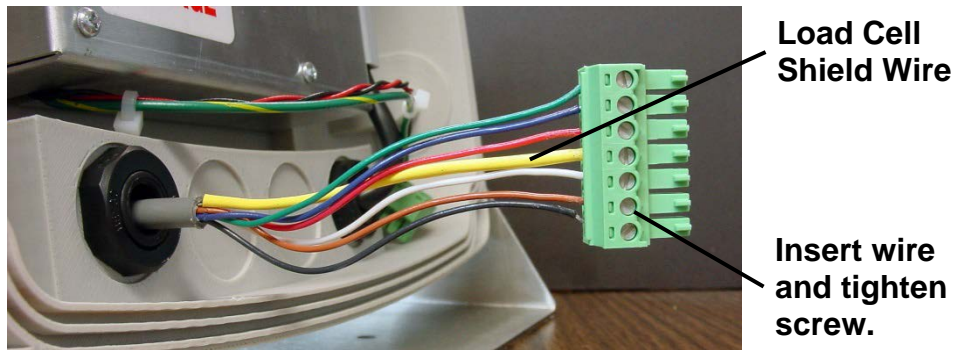

Figure No. 4
8. To terminate a wire, loosen the screws in the terminal block and then insert the wire into the terminal opening. Tighten the screw to secure the wire in place. See Figure No. 4.